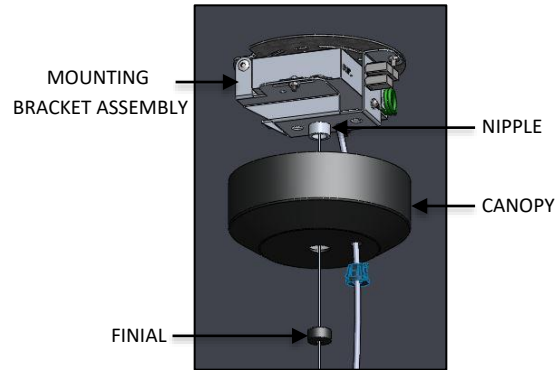

FIG. 17 – FINIAL INSTALLATION
12. Raise CANOPY and secure to ceiling by threading the FINIAL to the NIPPLE (available in MOUNTING BRACKET ASSEMBLY) as shown below in FIG. 17.